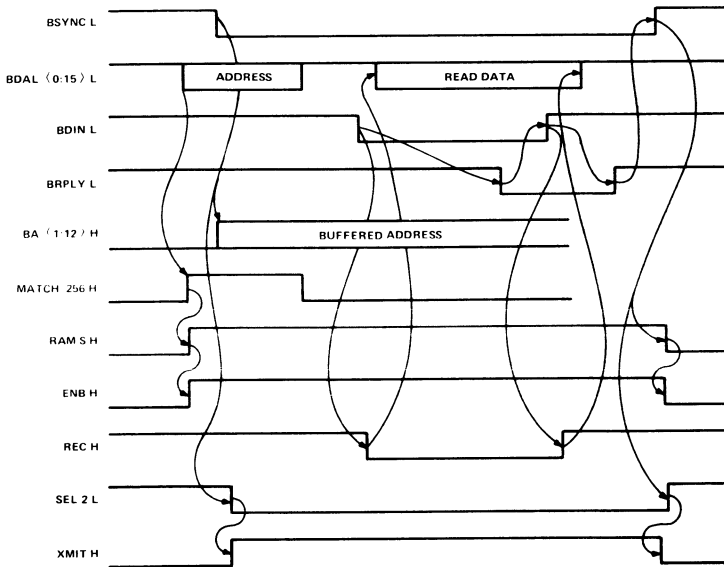

Figure 17-15 RAM Read Sequence (DAT1)
**PROM Reply to DATIO(B) Bus Cycles** The MRV11-BA module is factory-configured to reply only to DATI (read) cycles when PROM is addressed. However, in certain applications, the reply to the PROM “pseudo-write” sequence may be required to prevent bus time-out errors. The module is factory-configured with W21 installed and W22 removed. This enables the DOUT L signal input to the protocol logic (Figure 17-15) only when the 256 RAM is addressed (SEL2 is asserted low). When PROM is addressed, SEL2 L goes high and inhibits DOUT. Thus, attempting to write in PROM will result in bus time-out, since DOUT is not received by the protocol logic.
**RAM Read Sequence** A RAM read sequence is initiated when a bus master device places an address on the LSI-11 Bus (Figure 17-15). The RAM 32K and 256 (word) address select decoders produce a high (active) MATCH 256 H signal if the address is within the user-configured 32K and 256 address space. MATCH 256 H enables the RAM 1K address select decoder. If the bus address bits [BDAL<11:15> L] are equal to the user-configured 1K address segment, RAM S H goes high (active), producing an active ENB H signal that enables protocol logic operation. The bus master then asserts BSYNC L, latching the state of RAM S H and buffered address bits BA<1:12> H; the protocol logic responds to BSYNC L by producing an active SEL2 L signal, and the addressing portion of the sequence is completed.